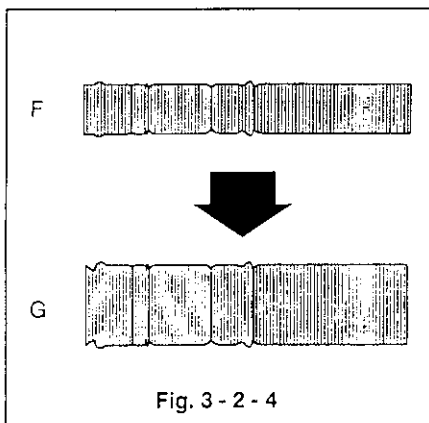

Fig. 3-2-4
- 4 If the amplitude of the FM waveform is narrow like F because of out of phase, adjust it to maximum like G, as shown in Fig. 3-2-4 by the following procedure. Loosen the screw E, insert a screw driver into the groove at the Base A/C and the main plate, and shift the Base A/C right and left.